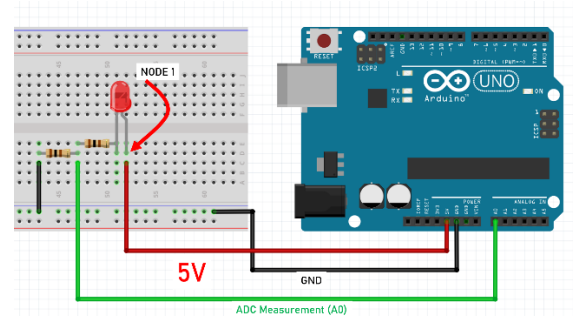

Figure 2c: 5V Breadboard Layout
- 14) Repeat steps 10-12 for the 5V line using the connections in Fig. 2c